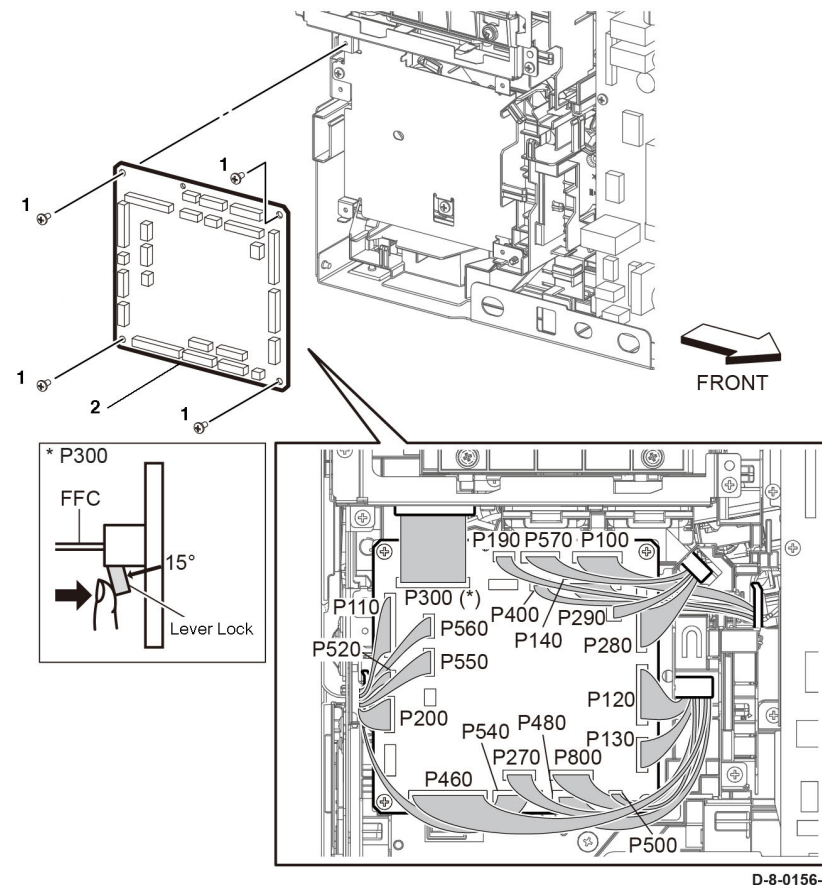

Figure 1 Remove the MCU PWB
1. Remove the MCU PWB, Figure 1:
- c. Remove four screws (1) securing MCU PWB (2), then remove the MCU PWB.